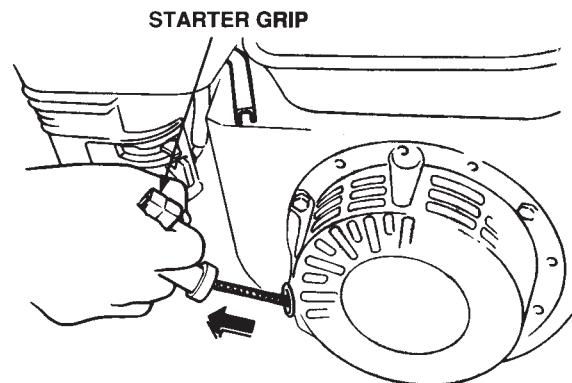

Figure 27. Starter Grip
5. Grasp the starter grip (Figure 27) and slowly pull it out. The resistance becomes the hardest at a certain position, corresponding to the compression point. Pull the starter grip briskly and smoothly for starting.